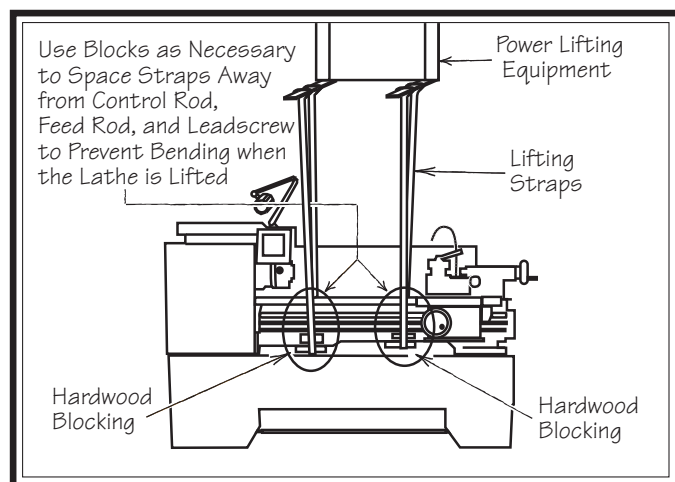

Figure 15. Example of lathe setup for lifting.
6. Attach the lifting straps to the power lifting equipment (see **Figure 15** for an example).